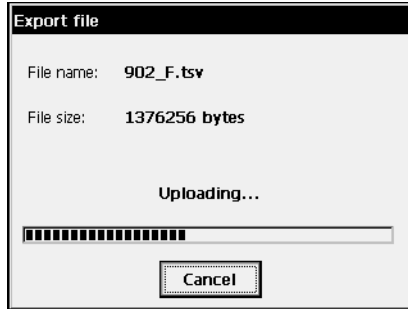

Figure 2-60. Export File
- **Finish:** opens the *Export File* screen reflecting status of exporting the file chosen (Figure 2-60).